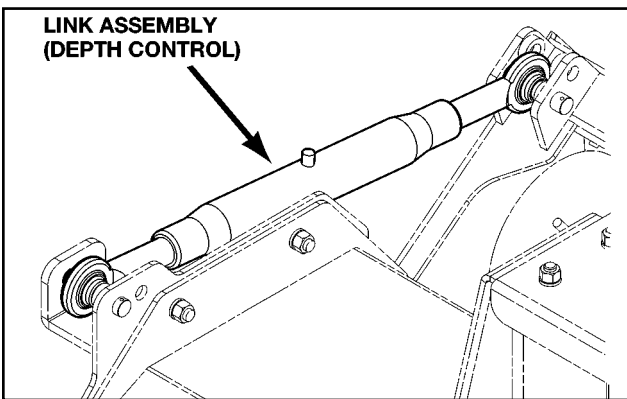

FIGURE 5 Manual Depth - Link Assembly
- 1. Depth Function** – The depth adjusting link controls the depth that the rotor tills the soil. Retracting the depth adjusting link allows the machine to work deeper, moving more soil. Extending the depth adjusting link raises the rake, keeping the rotor depth shallow. (See Figure 5).